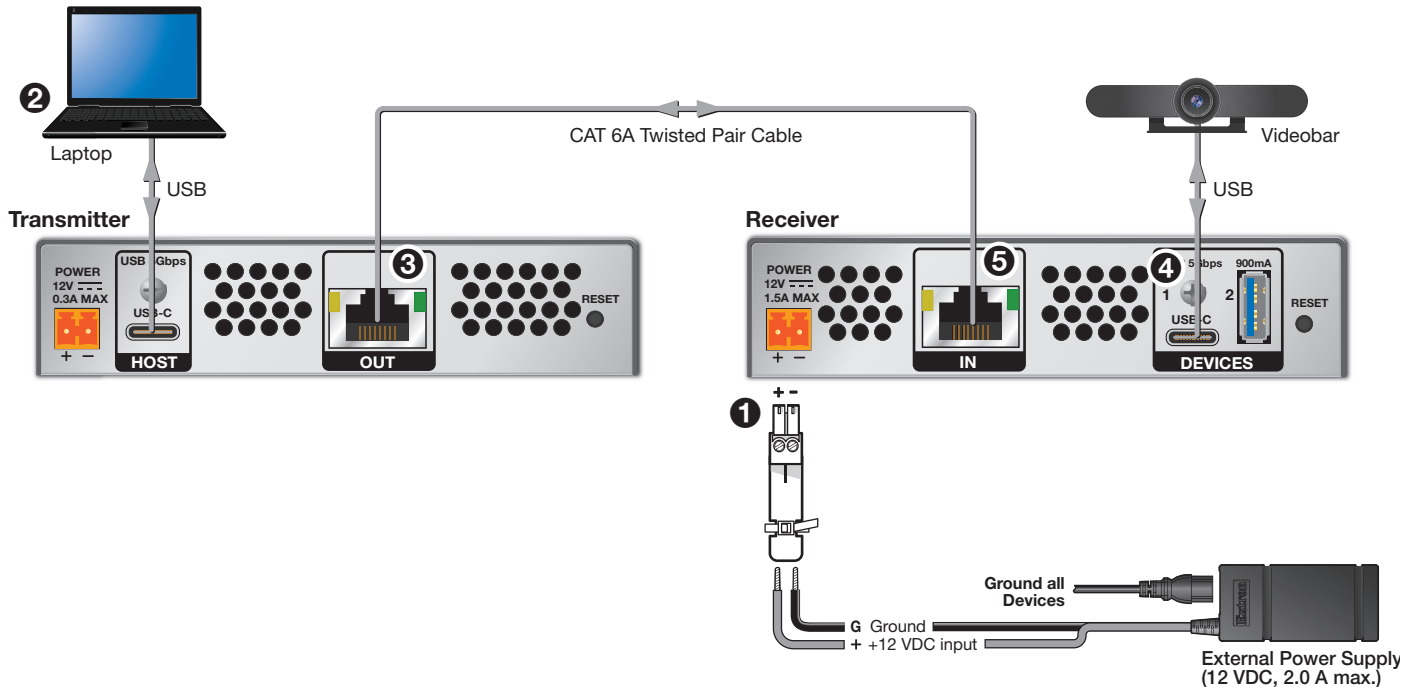

Figure 4. Transmitter and Receiver Connection with Host Laptop and USB Camera
To ensure proper operation, the transmitter, receiver, USB host, and USB peripherals must be connected properly and in the sequence described here (see figure 4).
2. Connect a twisted pair cable from the Output port of the transmitter to the Input port of the receiver (figure 4, 3 and 5). The transmitter and receiver front panel LINK LEDs will light steadily (see figures 6 and 7, C on page 4).
3. Connect USB peripheral device (e.g. USB cameras, Keyboard, Mouse, etc.) to the receiver's device ports (figure 4, 4).
5. Plug the two power supply connectors into their respective transmitter or receiver rear panel connectors (see figure 4, 1). OR, to remotely power the transmitter by the receiver, connect the 24 watt power supply to the receiver.
7. Connect a USB-C cable from the host device (see figure 4, ② on page 3) to the transmitter HOST input. The Host LED (see figure 6, **D**) lights, indicating that communication between the transmitter and host device has been established.
- E Receiver Devices LEDs (1 and 2)** — One or both of these green LEDs light when their respective rear devices ports (1 and 2) are connected to a USB device (figure 4, ④).